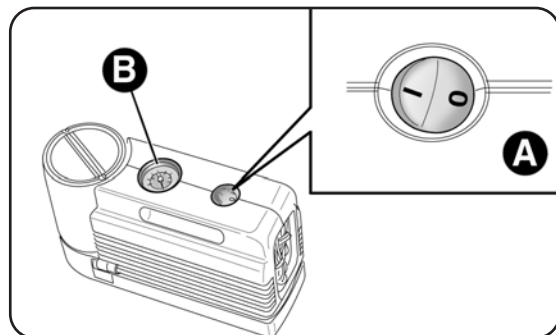
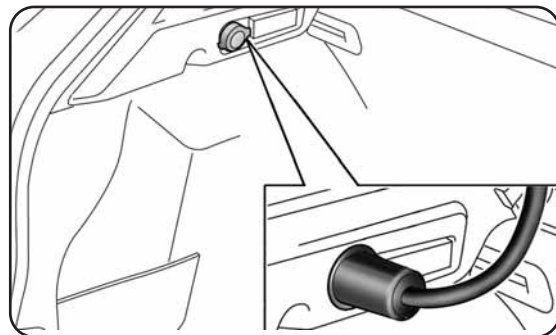

fig. 126
fig. 126a
- make sure that switch A-fig. 126 for the compressor is in position 0 (off), start the engine, insert the plug into the luggage compartment current socket (see fig. 126a) or cigar lighter on central tunnel (see fig. 127) and switch on the compressor by bringing switch A-fig. 126 to position I (on);
- inflate the tyre to the pressure shown in the “Wheels” paragraph in the “Technical Specifications” chapter. In order to obtain a precise reading, check the pressure on pressure gauge B-fig. 126 with the compressor off;